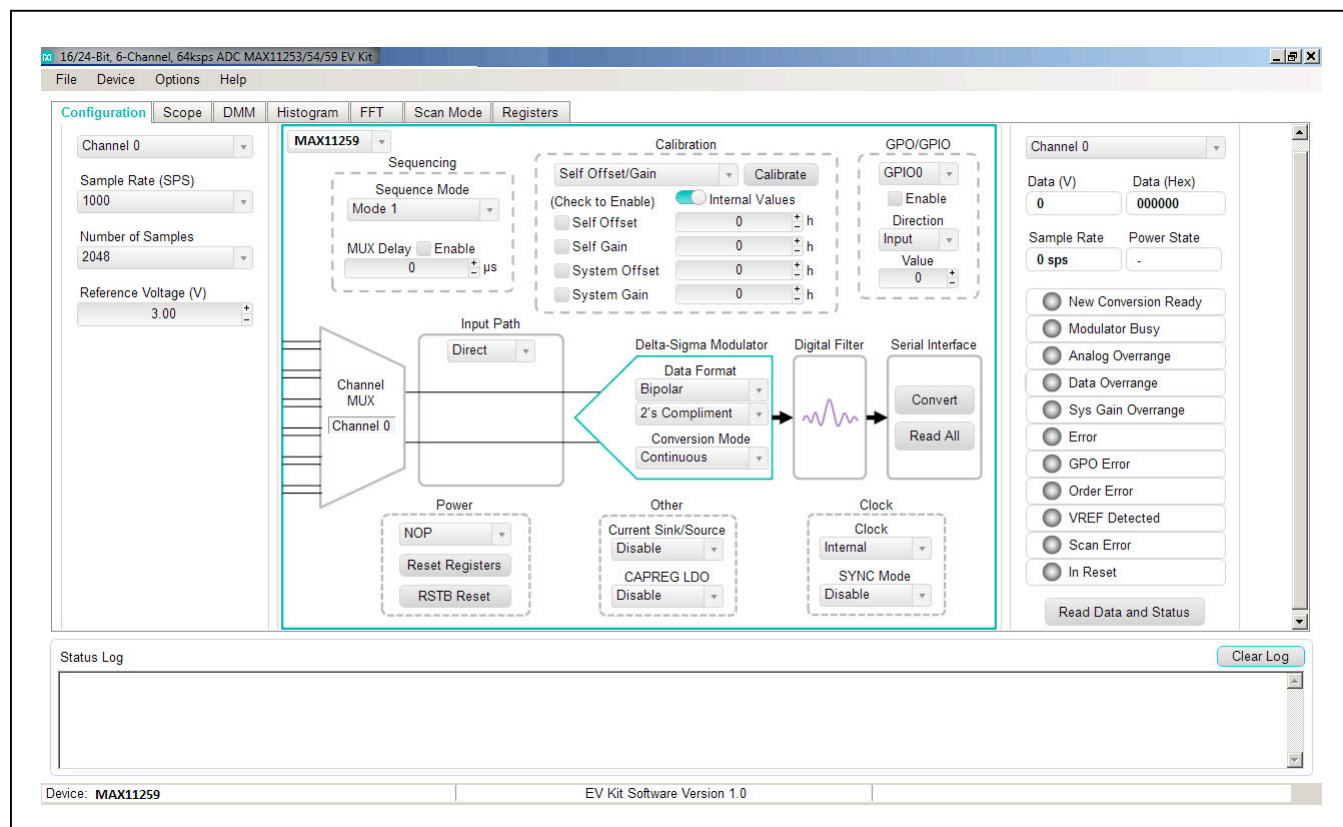

Figure 1. Peripheral Module Software (Configuration Tab)
- 5) Start the peripheral module software by opening its icon in the **Start | Programs** menu. The peripheral module software appears as shown in Figure 1. From the **Device** menu select **Standalone**. Verify that the lower left status bar indicates the EV kit hardware is **Connected**.
- 13) The peripheral module software appears as shown in Figure 1.